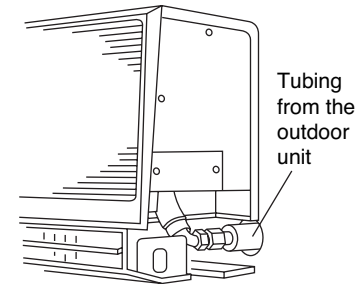

Fig. 3-49
- Extend the gas tube from the outdoor side and connect it directly to the mating tube inside the indoor unit. Use a flare nut. (Fig. 3-49)